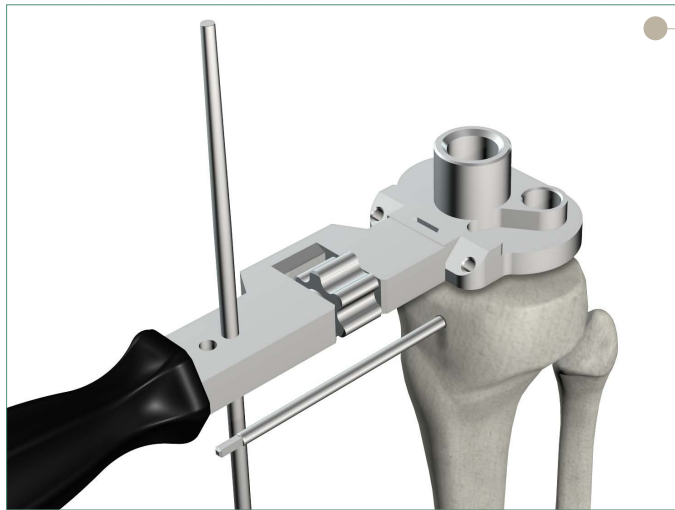

Figure 18
- ▶ The long Alignment Pin assembled with the Alignment Handle verifies rotational, Varus/Valgus, and flexion/extension alignment (**Figure 18**).